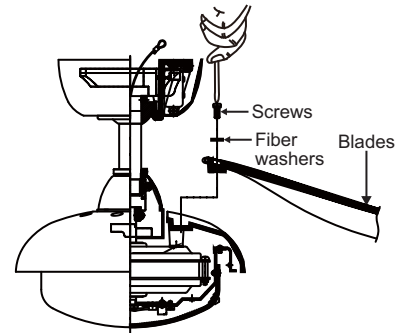

Fig. 15
Step 1. Align the holes from the blade to the holes from the motor, and secure the blade in place with screws and washers provided. (Fig. 15)